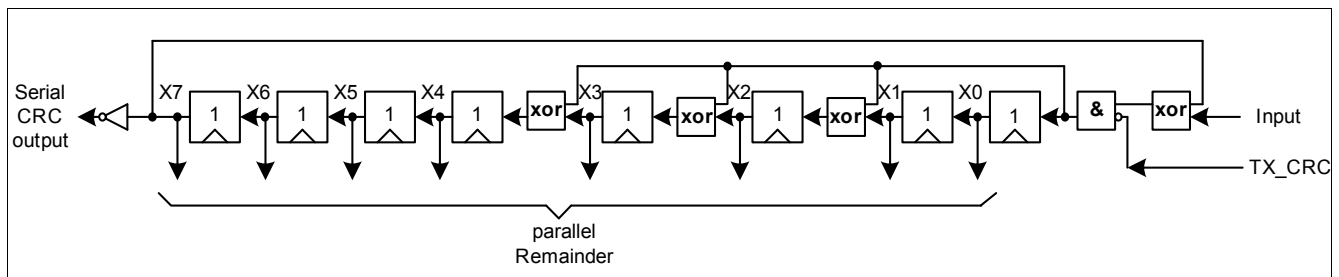

Figure 4-14 Fast CRC polynomial division circuit
- Generator polynomial: $X^8+X^4+X^3+X^2+1$, but for the CRC generation the fast-CRC generation circuit is used (see Figure 4-14)